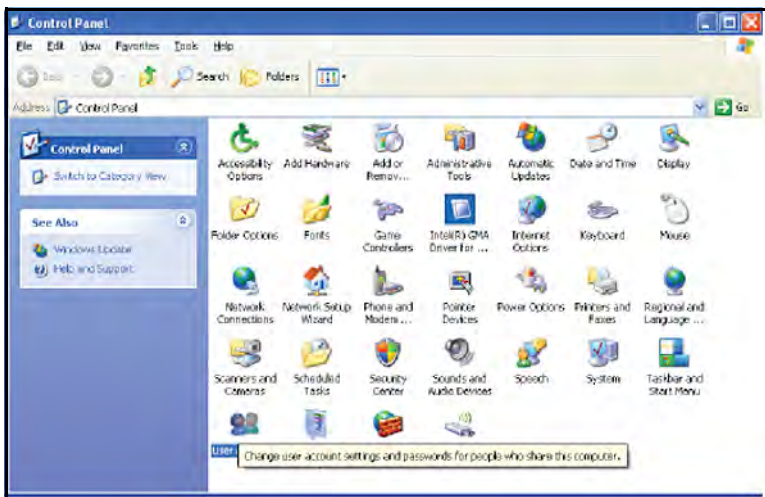

Figure 108: Windows Control Panel
1. From the Windows Start Menu on your PC, click on Settings>Control Panel. When the *Control Panel* window (see *Figure 108* below) opens, click on User Accounts.